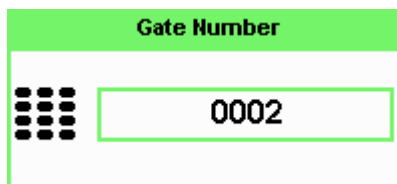

Figure 2-57 Gating Number pop-up
- 8 Press  to display the **Gate Number** pop-up, see Figure 2-57, and use the numeric keypad to enter the required value in the **Gate Number** pop-up window.